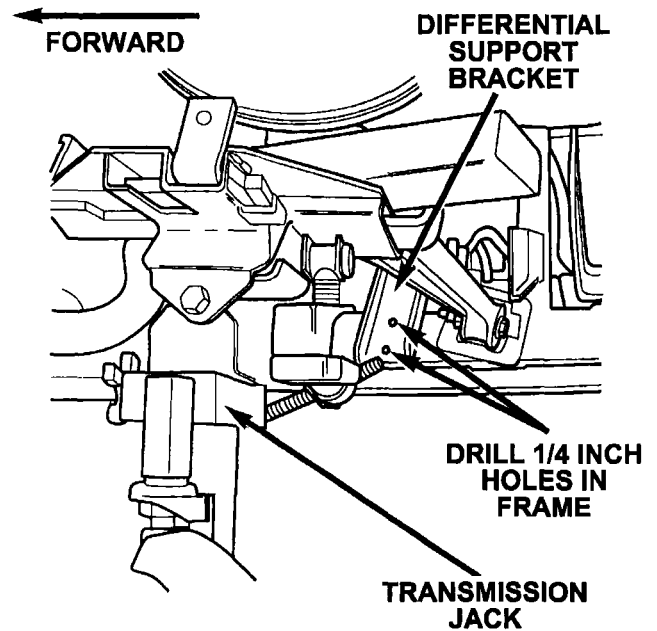

Figure 44
23. Place a jack stand under the left rear lower control arm and raise the suspension to allow access to drill the two holes in the frame (Figure 44).
24. Using the differential support bracket as a template, drill two 1/4 inch holes in the frame as shown in Figure 44.